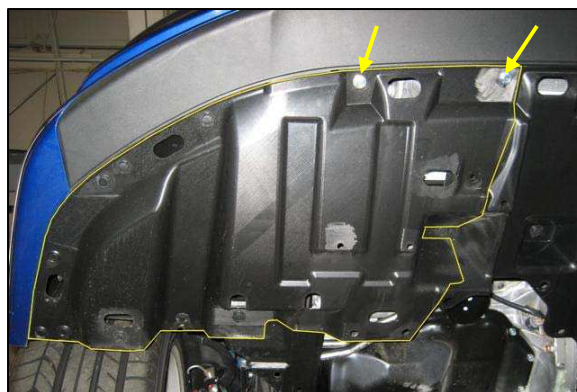

Fig. 3
3. Then remove the passenger side front cover, which is secured by 2 bolts and plastic clips. This cover is shown outlined in *Fig. 3*, with bolt locations shown by arrows (2 bolts, clips, 10mm socket, screwdriver).